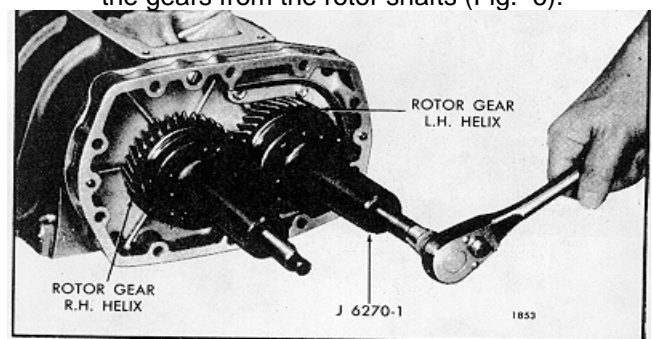
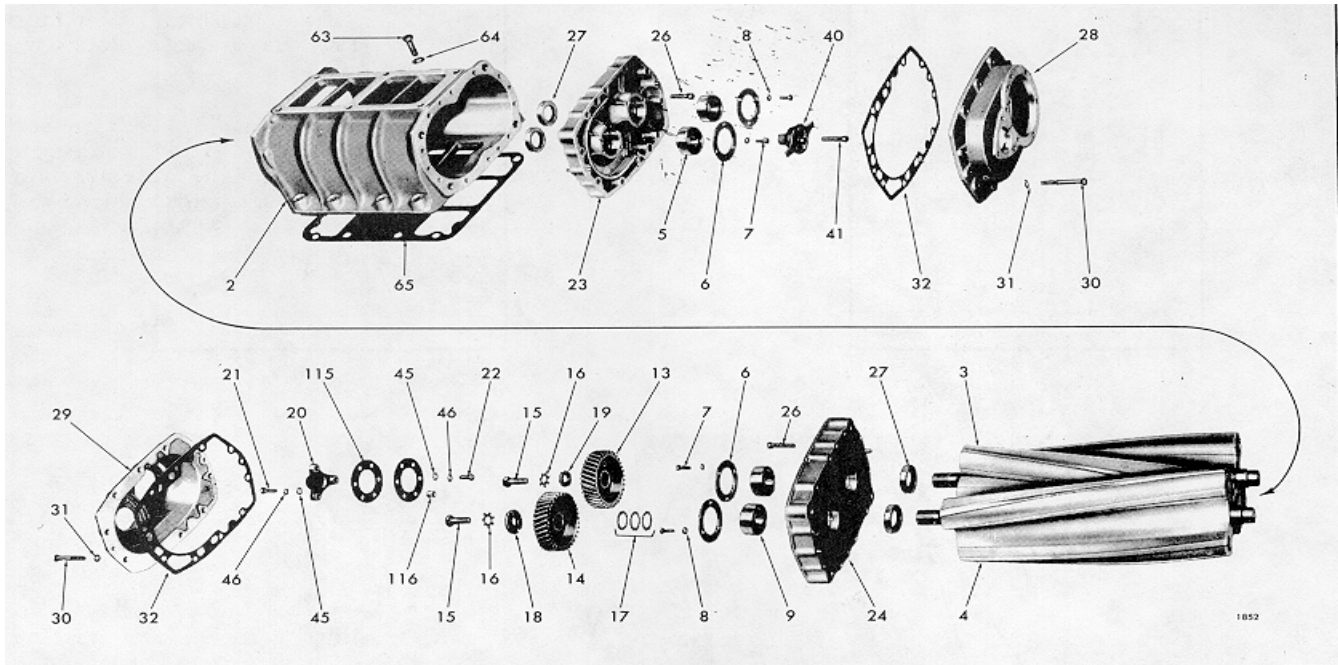

Fig. 6 - Removing Blower Rotor Gears from Blower Rotor Shafts
Fig. 11 - Typical Details and Relative Location of Parts - Standard and Small Diameter Rotor Six Cylinder 71 Blowers
4. Refer to Figs. 11 and 12 and remove the bolts (21), lock washers and plain washers securing the blower rotor drive hub (20) and drive hub plates (115) to the blower rotor timing gear (13) or drive gear (140), then remove the drive hub, plates and spacers (116) (and bearing retainer (117) or former 71E, 71N and 71T blowers) from the gear. If necessary, remove the three bolts (22), lock washers and plain washers securing the drive plates to the drive hub.
- a. Remove bolt, lock washer and retainer securing the timing gear, or the reduction drive gear (if used) to the right-hand helix rotor shaft. Then remove the bolt, lock washer and fuel pump coupling disc (18) securing the other timing gear, or the reduction driven gear (if used), to the left-hand helix rotor shaft. If used, slide the right-hand helix reduction drive gear with bearing off the upper rotor shaft. Remove the reduction driven gear from the lower rotor.
- c. With the shop towels between the blower rotors and housing to prevent them from turning, turn the puller screws uniformly clockwise and pull the gears from the rotor shafts (Fig. 6).
With this precaution in mind, proceed with blower assembly, referring to Figs. 11 through 24 as directed in the text.